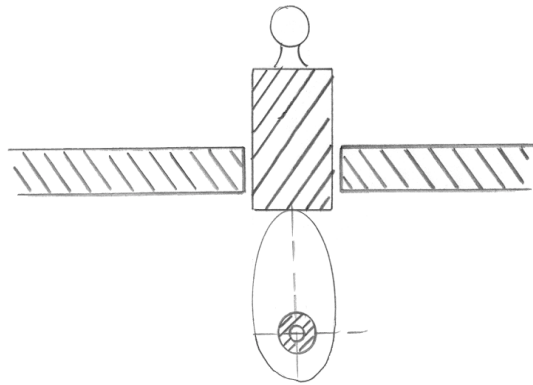

Fig. 3
Fig.3 shows part of the mechanism for the toy.
- (c) Label Fig.3 to show the 'cam' and the follower. [2]